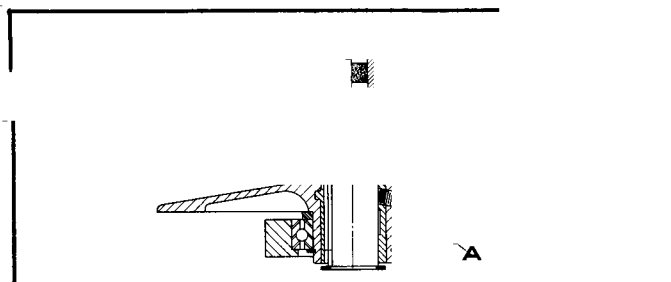
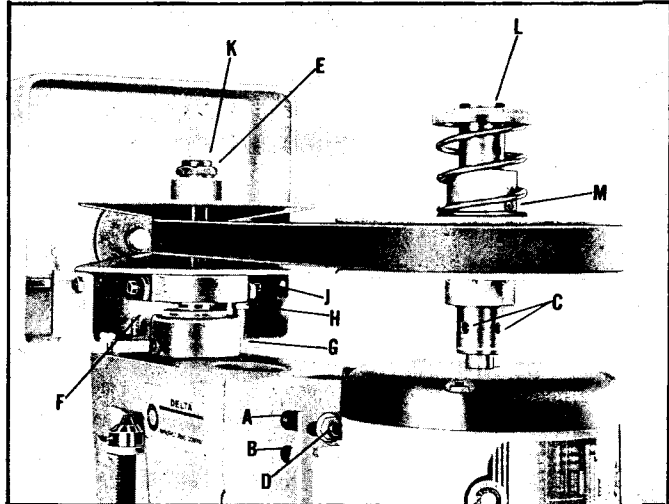
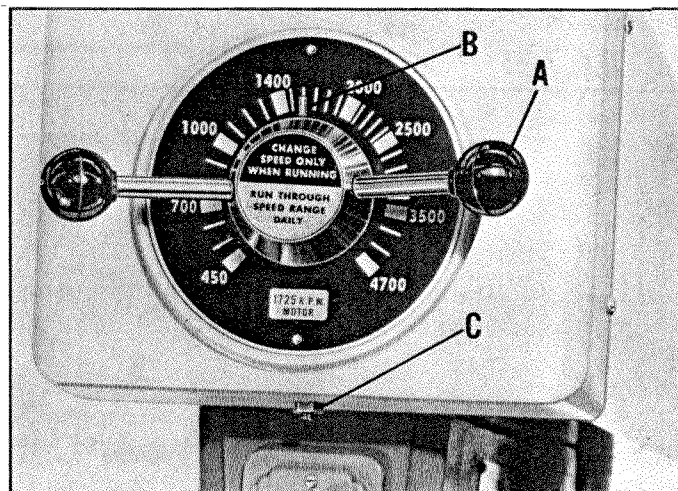

Fig. 4
Fig. 12
Fig. 13
Similar drag plugs or "dampeners" are provided in the spindle pulley and motor pulley assemblies, and are adjusted at the factory. After long service, it may be desirable to increase the pressure on the drag plugs by tightening set screws (A) Fig. 4 for the spindle pulley, and (M) Fig. 12 for the motor pulley. This adjustment does not have to be made, unless normal wear has resulted in noisy operation of the pulleys.
3. If you are installing a NEMA 56 Frame Motor, it is necessary to remove the two upper motor mounting studs (A) Fig. 12, and reposition them in the holes (B) directly below.
4. Make sure the key is in place and tighten the two set screws (C) against the motor shaft.
5. Place the motor on the four motor mounting studs (A) Fig. 12, and install belt.
6. Visually line up the motor shaft so that it is in parallel alignment with the spindle. If the motor must be tilted to the front or rear, it is necessary to loosen the four nuts (D) and move studs (A) in or out as desired until the motor shaft is parallel with the spindle. Then tighten the four nuts (D) Fig. 12.
8. If the motor must be moved further away from the spindle, back off each of the four nuts (D) and back off the four studs (A) an equal number of turns against the motor base plate.
9. If the motor must be moved forward turn in each of the four studs (A) an equal number of turns and tighten nuts (D) against the motor base plate.
10. The spindle nut (E) Fig. 12, should then be adjusted so that the distance from the top of the nut to the top of the spindle is 1/4 to 5/16".
11. TO CALIBRATE THE SPINDLE SPEED turn the drill press on and turn pilot wheel clockwise. When the outside circumference of the belt extends 1/32" beyond the outside circumference of the motor pulley, turn off the power, loosen locknut (G) Fig. 12, and adjust the stop screw (H) until it is bearing against the bottom of the bearing retainer (J). With a 1725 rpm motor the speed of the drill press will be approximately 4700 rpm. With a 1140 rpm motor the speed of the drill press will be approximately 3100 rpm. Now set the pointer (B) Fig. 13, to the corresponding speed on the spindle speed chart by unscrewing and removing the pilot wheel hand levers (A) Fig. 13, and loosening the set screws located directly under the hand levers. The hub of the pilot wheel assembly can then be rotated until the pointer points to the corresponding speed on the spindle speed chart (B) Fig. 13. Then tighten the set screws and replace the pilot wheel hand levers (A) Fig. 13.
12. Turn the drill press on and rotate the pilot wheel counterclockwise until the pointer is pointing to the lowest rpm mark on the speed dial and turn off the drill press. Adjust the stop screw (F) Fig. 12, against the roller cam follower on the pilot wheel cam assembly. To adjust stop screw (F) Fig. 12, first loosen locknut (C) Fig. 13.
The pulleys should be lubricated weekly in the oil holes located at (K and L) Fig. 12. Oil the holes when the drill press is turned off. Then turn on the drill press and run the machine from low speed to high speed a few times.